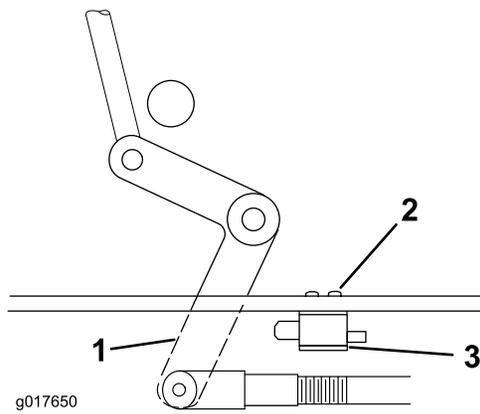

Figure 52
4. If needed, adjust the blade-safety switch by loosening the bolts holding the switch bracket (Figure 52).
5. Move the mounting bracket until the bellcrank presses the plunger by 6 mm (1/4 inch); refer to (Figure 52).